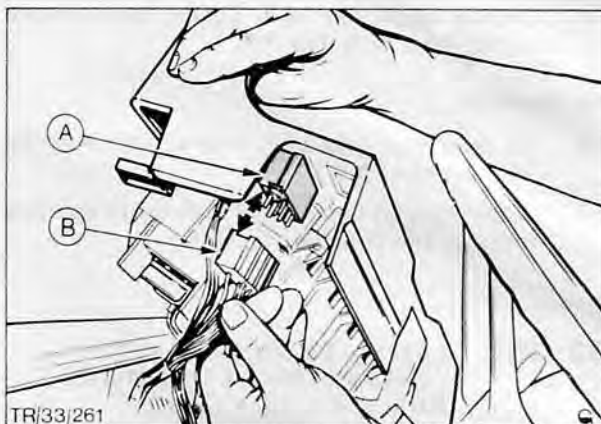

Fig. 13. Disconnecting switches
5. Disconnect auxiliary switches from main loom at multi-plugs located at back of switches, Fig. 13.